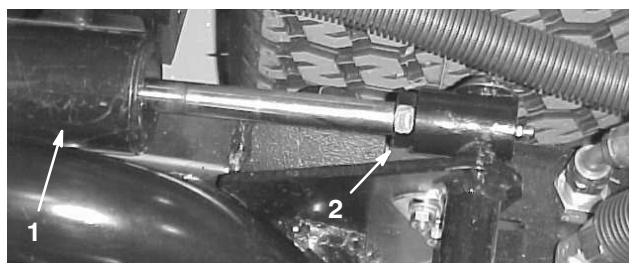

Figure 9
3. Start the engine, raise the decks, and check to make sure that the clearance between the wear strap on the top of the rear cutting unit wear bar and the bumper strap is 0.02–0.10 in. (0.51–2.54 mm) (Fig. 8). If the clearance is not in this range, adjust the rear cylinder to attain clearance. To adjust the cylinder, lower the cutting units and back off the jam nut on the cylinder (Fig. 9). Grasp the cylinder rod close to the nut with a pliers and rag and rotate the rod. Raise the cutting units and check the clearance. Repeat the procedure if required. Tighten the clevis jam nut.